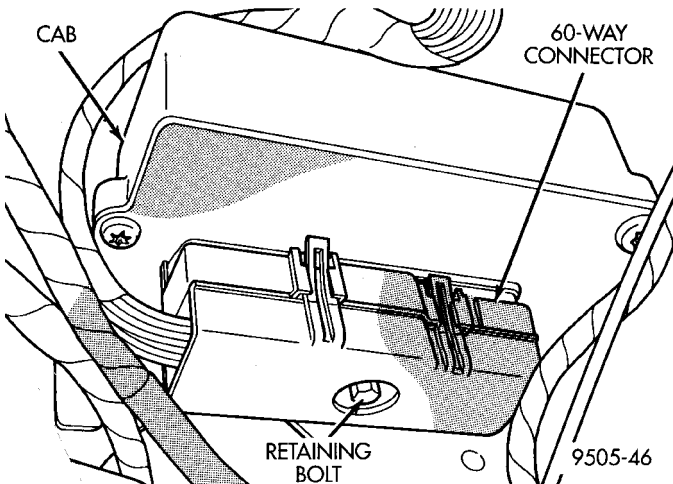

Fig. 28 CAB 60-Way Wiring Harness Connector
- (1) Turn vehicle ignition off.
- (2) Disconnect the wiring harness 60 way connector (Fig. 28) from the Controller Antilock Brake Module (CAB). **VERIFY THAT THE VEHICLE IGNITION IS OFF BEFORE REMOVING THE 60 WAY CONNECTOR.**
- (3) Install the 60-way wiring harness connector (Fig. 28) by hand into the 60-way CAB connector, as far as possible. Then use the CAB connector retaining bolt (Fig. 28) to fully seat wiring harness connector into the CAB.
- (4) Torque the 60-way connector retaining bolt (Fig. 28) to 4 N·m (38 in. lbs.).
- (5) **If a new CAB is being installed, it must be initialized prior to the vehicle being driven. The CAB is initialized using the DRB Scan Tool and the initializing procedure described upon selecting Bendix ABX-4 Diagnostics. New controllers are programmed to flash the ABS warning lamp until initilized by the installing technician.**